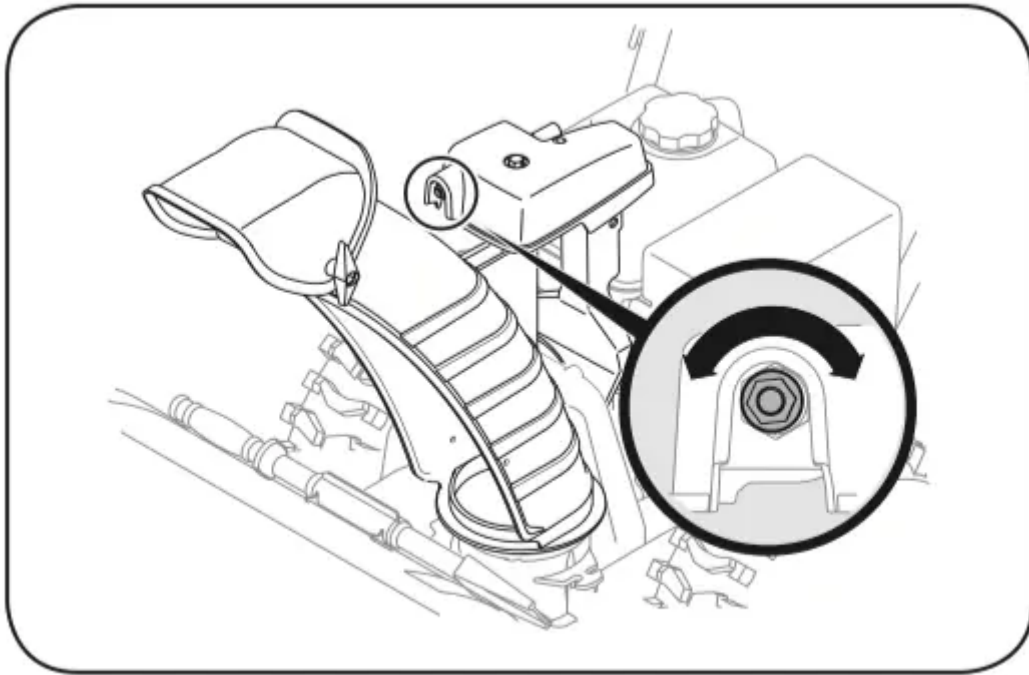

**Figure 65**
1. Loosen the two nuts which secure the chute bracket and reposition it slightly. See Figure 65.